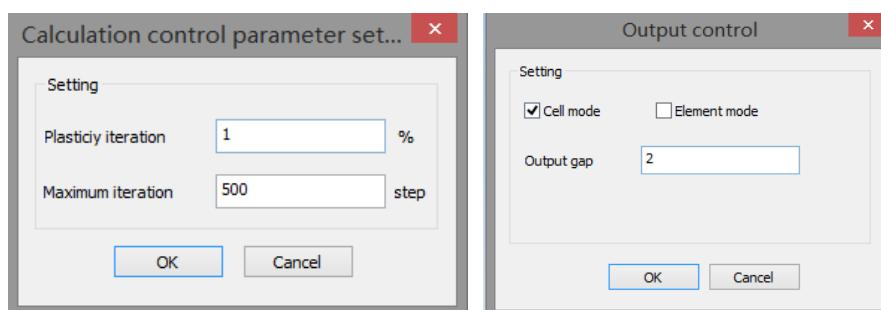

Figure 37 Calculation and output control
- (6) Set the calculation and output control (Figure 37);
- (7) Start calculation.